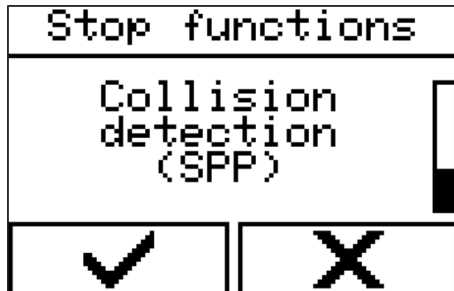

Fig. 108: Selecting a menu
1. → Select the menu via 'Control' → 'Stop functions' → 'Collision detection' (Fig. 108).